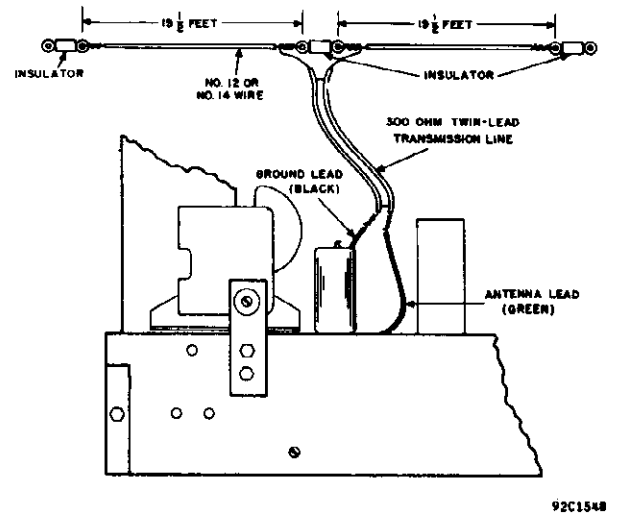

Fig. 2. Doublet Antenna Installation
1. Construct the antenna as shown in Fig. 2. Note that the antenna is 19½ feet long each side of center, the two sections being insulated from one another.